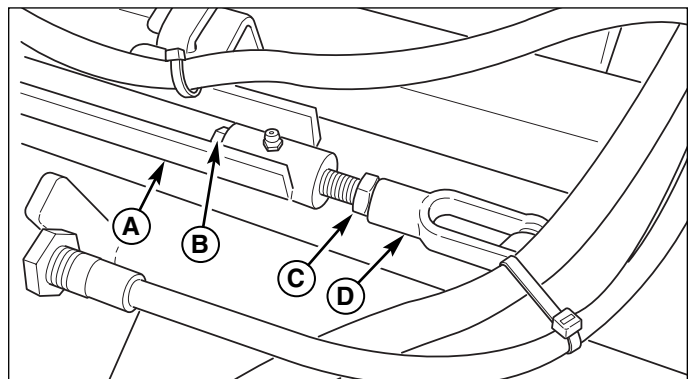

Figure 14. Center Lift Link Adjustment
7. Raise the seat plate to access the center lift link (A, Figure 14).
8. Loosen the jam nut (C) on the lift clevis (D) and turn the adjuster bolt (B) until the measurements are equal. Tighten the jam nut against the lift clevis.